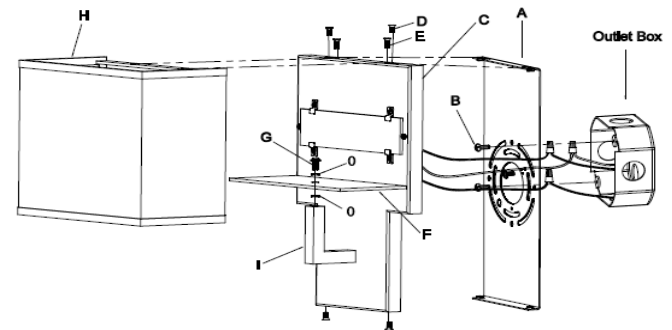

Fig.2
CONNECTING THE WIRES (FIG. 2)
4. At this point, connect the electrical wires as shown in Fig. 2, making sure that all wire connectors are secured. If your outlet has a ground wire (green or bare copper), connect the fixture's ground wire to it. Otherwise, connect the fixture ground wire directly to the mounting plate (A) using the green screw provided. After wires are connected, tuck them carefully inside the junction box.
5. Align fixture's back plate (C) onto mounting back plate (A) and secure with screws (D) (Size: 'M4*8MM).